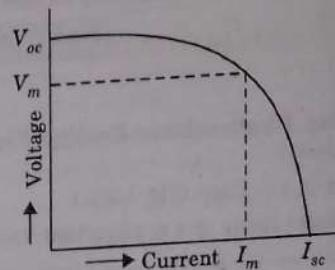

Fig. 1.10.1. Voltage-current (*V-I*) characteristic of a solar cell.
1. The electrical characteristics of a solar cell are expressed by the voltage current (*V-I*) curves plotted under a given illumination and temperature conditions as shown in Fig. 1.10.1.
2. In Fig. 1.10.1, the maximum useful power of the cell is represented by the rectangle with the largest area.